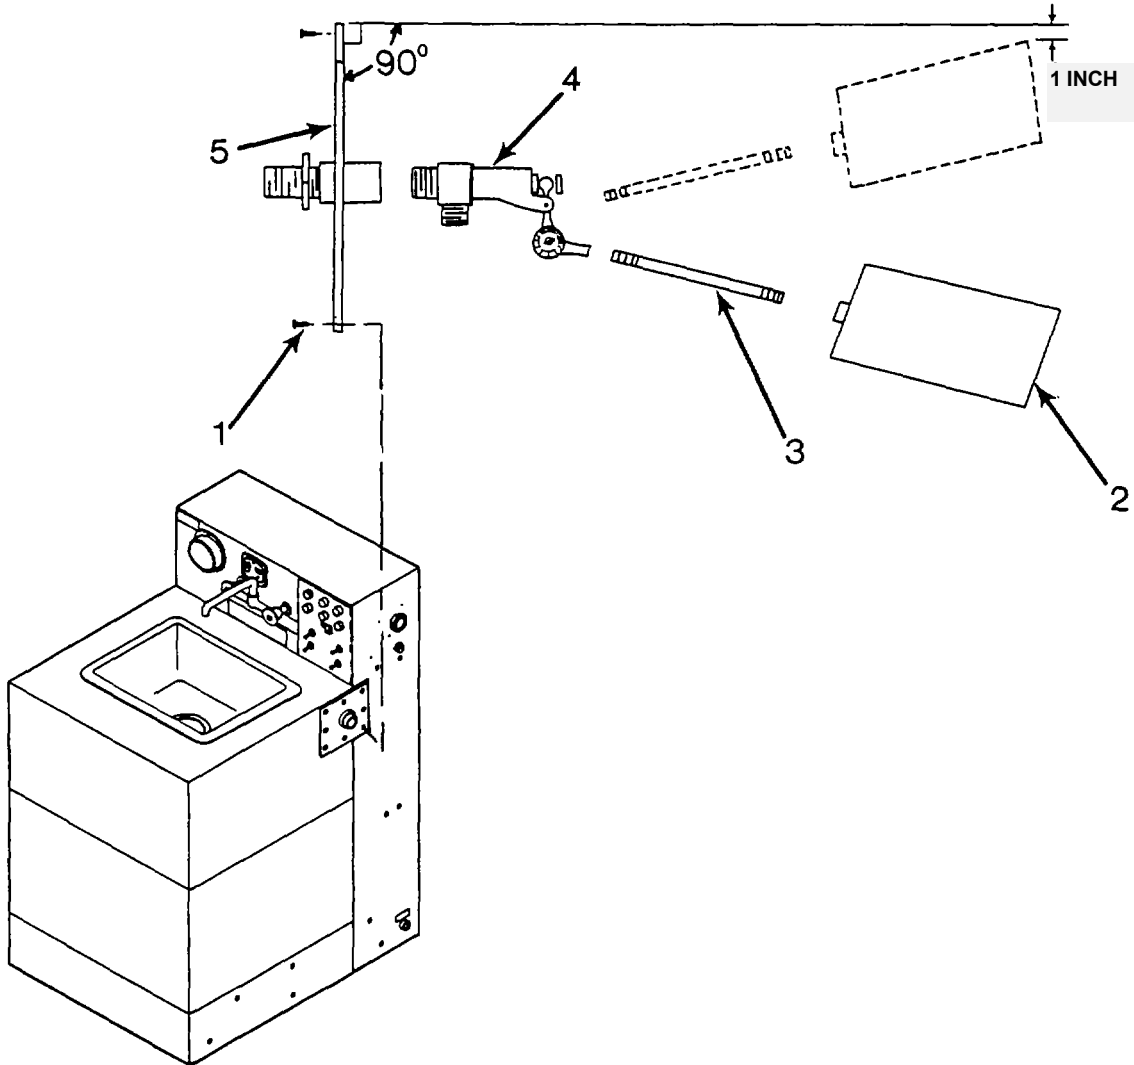

Figure 4-29. Replace Water Float Valve Assembly
m. Repair by replacing water float valve assembly. (See Figure 4-29.)
(1) Drain fresh water tank. Refer to paragraph 2-14.